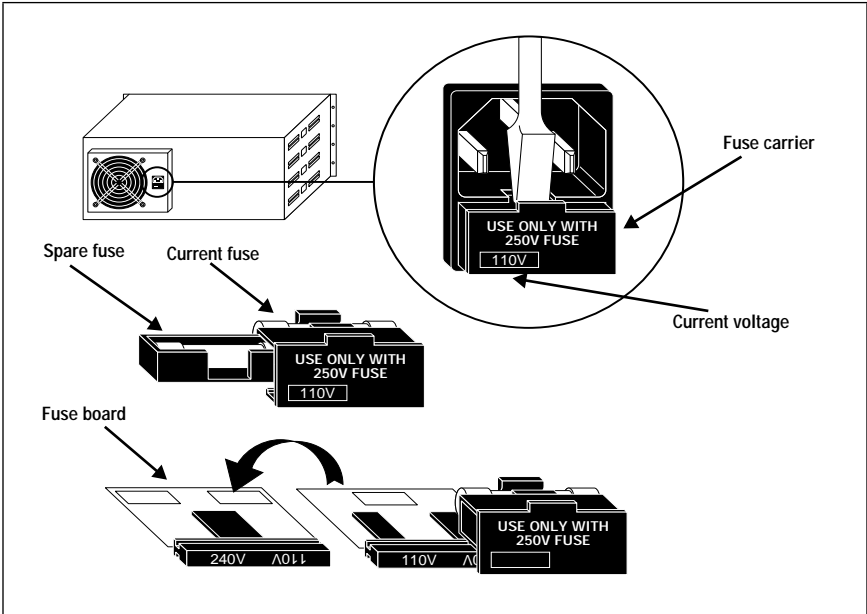

Figure 8: Fuse and Power Locations
You can configure the fan voltage for either 120 or 240 volts AC, depending upon the voltage your country uses. The current voltage is visible on the back of the chassis, just below the power cord plug as shown in Figure 8.
3. Re-insert the fuse board in the carrier until the required voltage appears in the window as in Figure 8 on page 10.